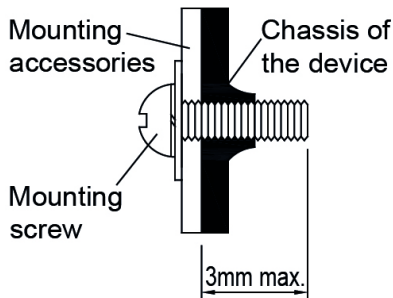

Fig. 4 Mounting Screw
- **For PMT and PML Series (Refer to Fig. 4):** Only use M3 screw ≤ 3 mm (0.12 inch) through the base mounting holes. This is to keep a safe distance between the screw and internal components. Recommended mounting tightening torque: 4~7 Kgf.cm (3.47~6.08 lbf.in).